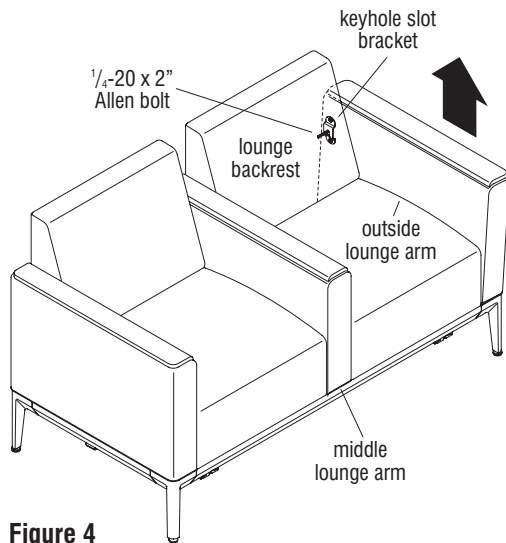

Figure 4
6. With the assistance of a second person, carefully turn the lounge unit to the upright position (Figure 4).
the bottom of the seating unit frame. If the middle arm is to be removed, both adjoining backrests must first have been loosened in step 5, then the middle lounge arm can be lifted to release the $\frac{1}{4}$ -20 x 2" Allen bolt on each side of the arm from each keyhole slot bracket and remove the arm from the bottom of the seating unit frame (Figures 4 & 5 & Detail C).
the seating unit frame. If the middle lounge arm is to be replaced, align the larger openings of the keyhole slot brackets on each side of the arm with the heads of the $\frac{1}{4}$ -20 x 2" Allen bolts at the side of each backrests so the brackets will rest on top of the bolts, allowing the replacement arm to be lowered into the original location on the seating unit frame (Figures 4 & 5 & Detail C).